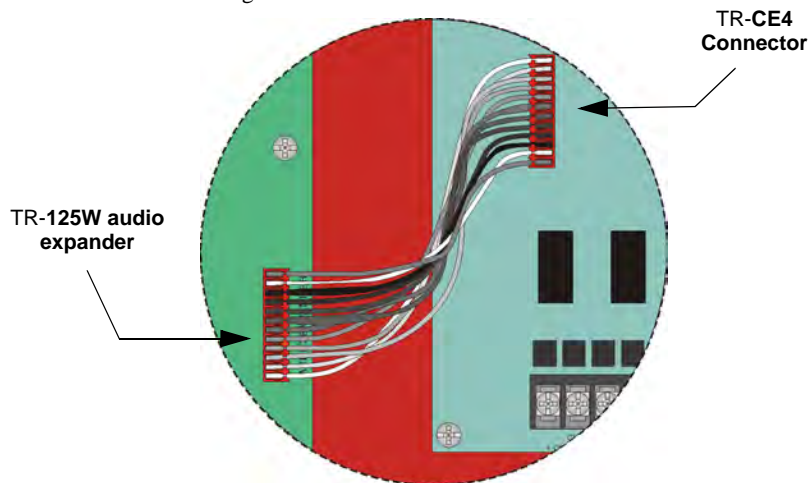

Figure 4.53 Audio Expander Wire Harness Connections
2. Connect the audio expander cable harness (P/N 130426) from the connector labeled “Audio Expander” on the TR-50W or TR-125W to the connector on the TR-CE4 as shown in Figure 4.53.